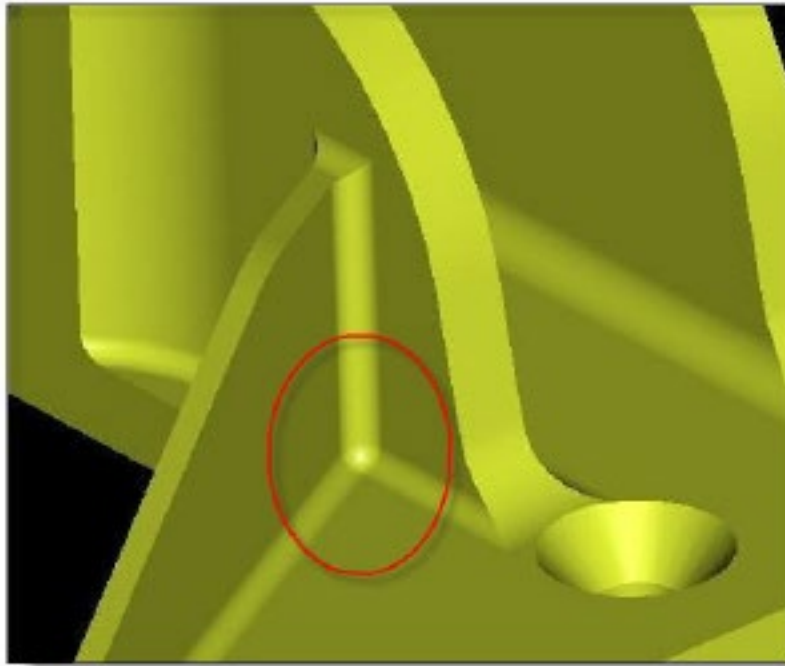
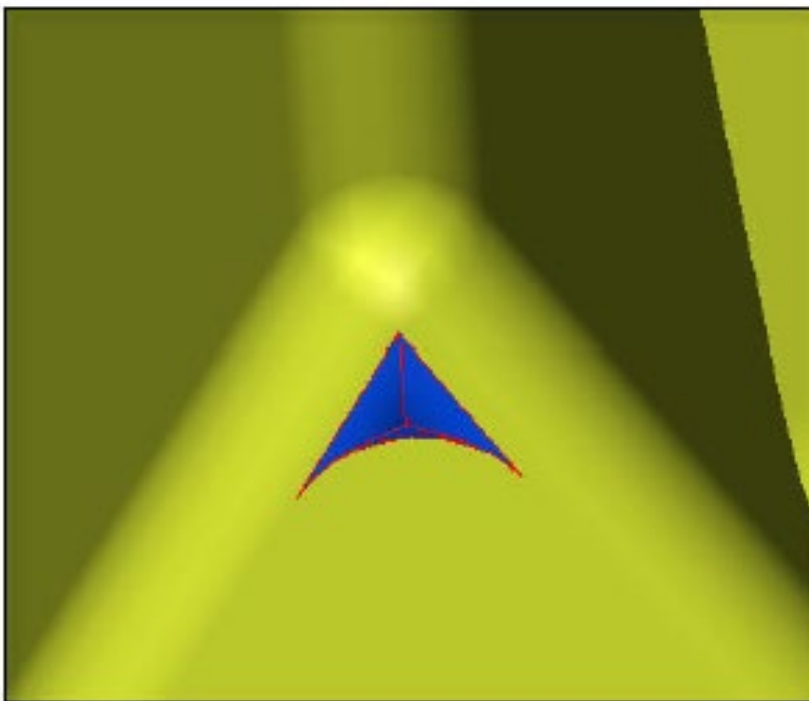

Figure 6: Equal Radii on floor & wall cost 10X more to machine, Source: Pro CNC Inc.
Figure 7: Area in Blue will be hard to remove. Source: Pro CNC Inc.
- Model floor radii smaller than wall radii. See Figure 6 for example. When a design calls out equal floor and wall radii, two tools are necessary to clean the area completely. The wall will have to be cut with a ball end mill while the floor has to be cut with a flat end mill. This will leave a triangular shaped section that only the ball end mill can remove. See Figure 7 for illustration.